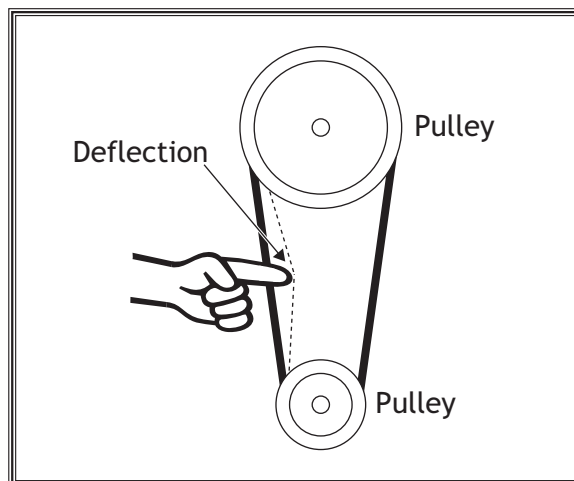

Figure 64. Checking belt deflection.
8. Check belt deflection as shown in **Figure 64**.